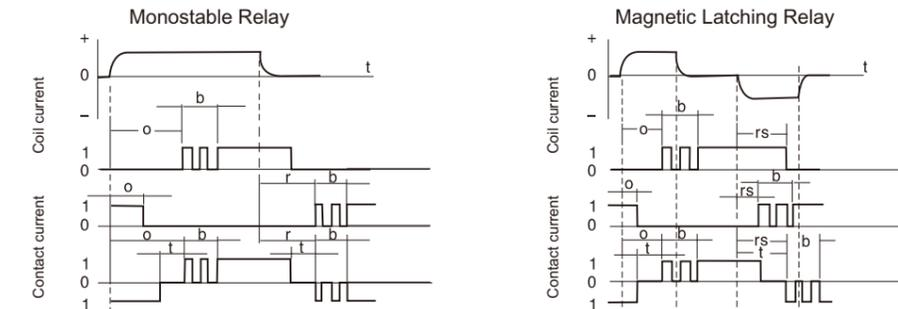

Figure 2
2.3 Operate Time (Pull-In or Pick-Up Time) : The elapsed time from the initial application of power to the coil, until the closure of the normally open contacts. (With multiple pole devices the time until the last contact closes.) This time does not in elude any bounce time.see figure 2